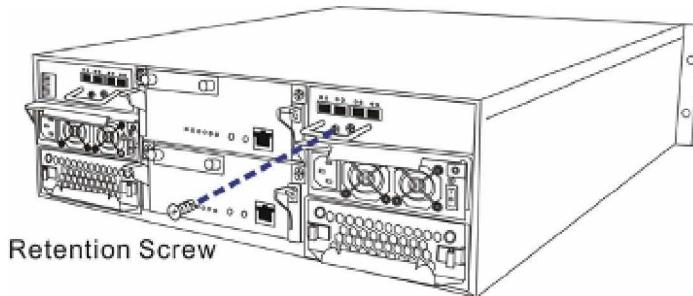

Figure 5-19: Fasten the retention screws
Step 7. *Fasten the retention screws* on the host connection module rear panel to secure the module to the chassis. (See **Figure 5-19**)